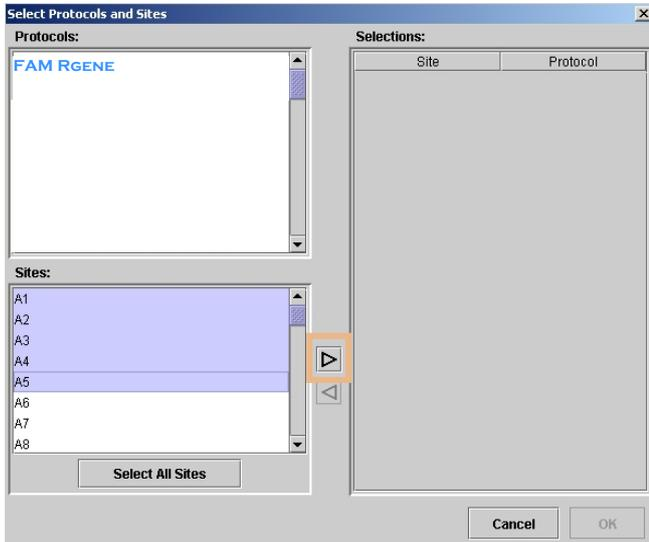

Fig.5
- Click on **ADD/REMOVE SITES**. A window appears: **SELECT PROTOCOLS AND SITES** (fig.5).